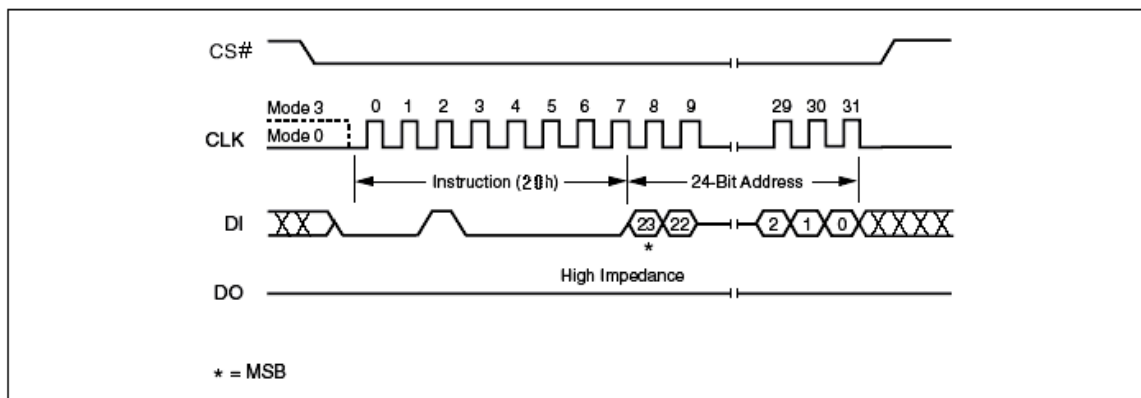

Figure 31. Sector Erase Instruction Sequence Diagram
The instruction sequence is shown in Figure 31. Chip Select (CS#) must be driven High after the eighth bit of the last address byte has been latched in, otherwise the Sector Erase (SE) instruction is not executed. As soon as Chip Select (CS#) is driven High, the self-timed Sector Erase cycle (whose duration is t_{SE}) is initiated. While the Sector Erase cycle is in progress, the Status Register may be read to check the value of the Write In Progress (WIP) bit. The Write In Progress (WIP) bit is 1 during the self-timed Sector Erase cycle, and is 0 when it is completed. At some unspecified time before the cycle is completed, the Write Enable Latch (WEL) bit is reset.